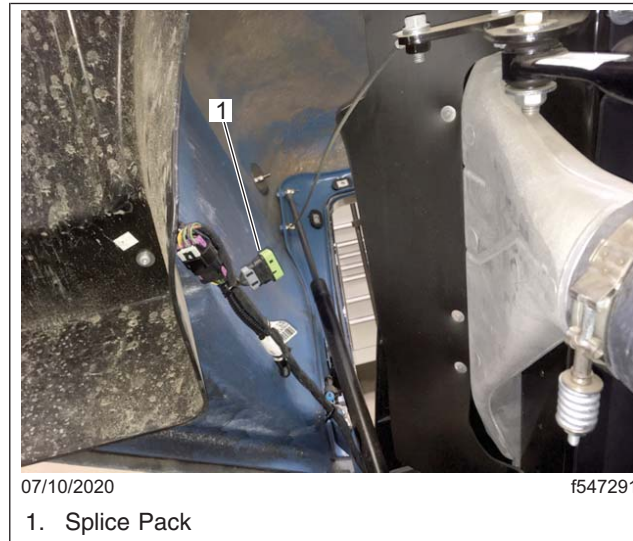

Fig. 3, Splice Pack Location (LH side shown, RH side similar)
4. Locate the splice pack on the side of the vehicle with the intermittent or inoperative hood lighting. See Fig. 3.